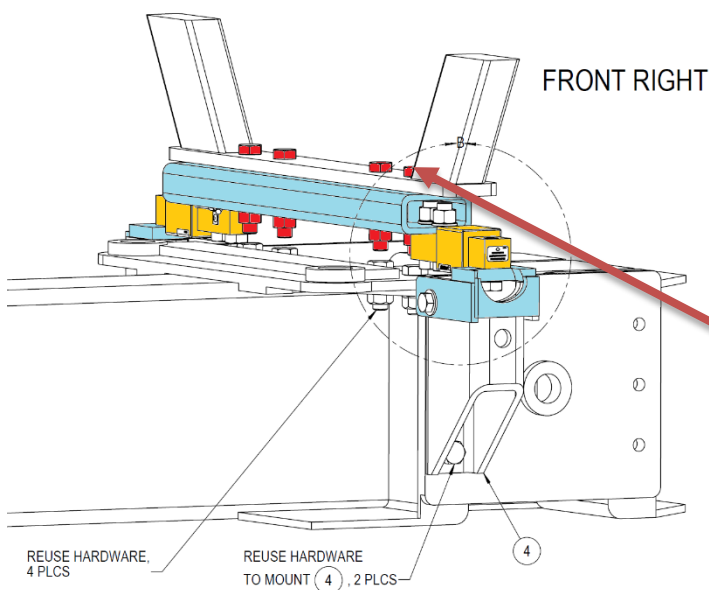

Fig. 5
- Install the Top Front Tube Support assembly onto the front leg. Utilize the 3/4" x 4" Bolts and associated hardware to secure the assembly to the front leg. Leave the four bolts loose. Refer to figure 5.